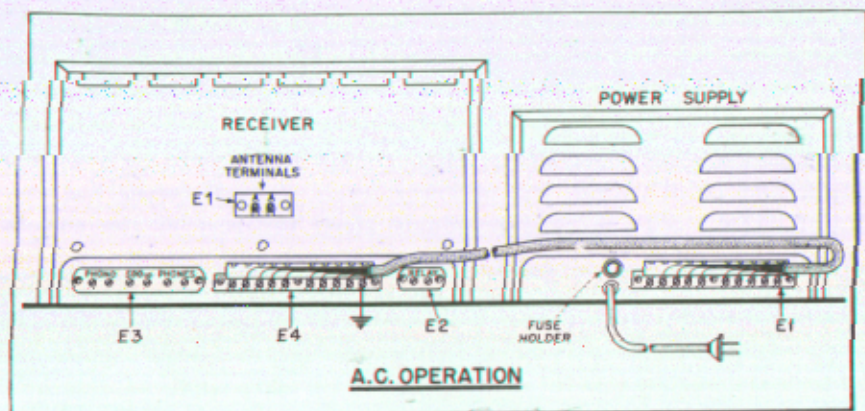

Fig. 5. Connections for power cable—A.C. operation.
g. *Power Transformer Primary Tap:* Before plugging the power cord into the a-c line, remove bottom plate from Power Supply to see that power cord is properly connected for the a-c voltage of the power line being used. One wire of the power cord is permanently connected to the fuse-holder (E3, Fig. 5); the other wire is connected at the factory to one of the screw terminals on terminal strip E2 (Fig. 5). These screw terminals are marked 105, 115 and 125, and are connected to primary taps on the power transformer. See that the power cord is connected to the screw terminal most closely agreeing with the available a-c line voltage and replace the bottom cover plate.